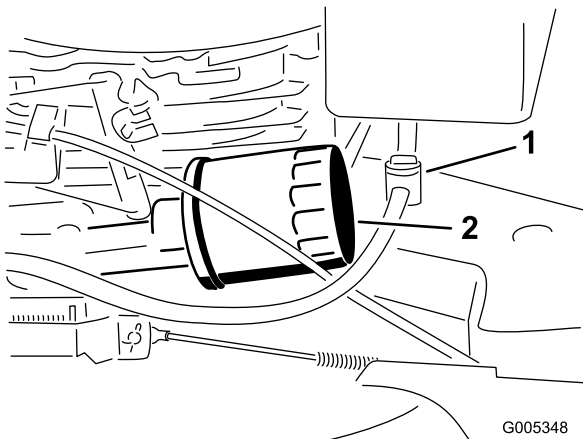

Figure 22
Replace the oil filter (Figure 22) after every 100 operating hours or yearly, whichever comes first.
3. Close the fuel valve (Figure 22).